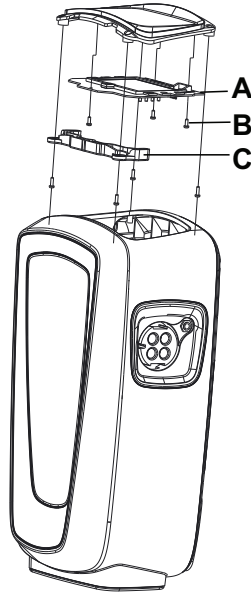

Figure 31 – PCBA assembly
5. Using a #2 Phillips screwdriver, remove the three screws (B) that secure the molded PCBA holder (C) to the PCBA assembly (A) (Figure 31). Save the screws.